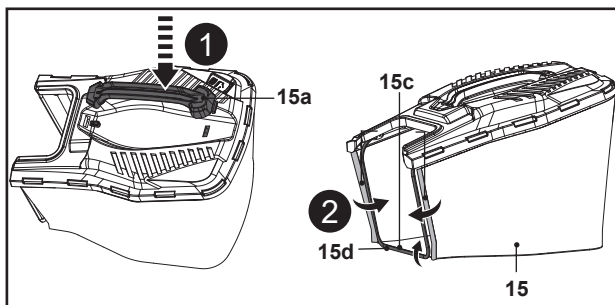

Fig 6
1. Insert the carry handle (15a) into the two assembling slots and make sure that the carry handle (15a) is firmly in place (Fig. 6, step 1).
2. Clip the three rubber clips (15c) onto the supporting rod (15d) of the grass catcher (15) (Fig. 6, step 2).
3. The grass catcher (15) is ready for use.